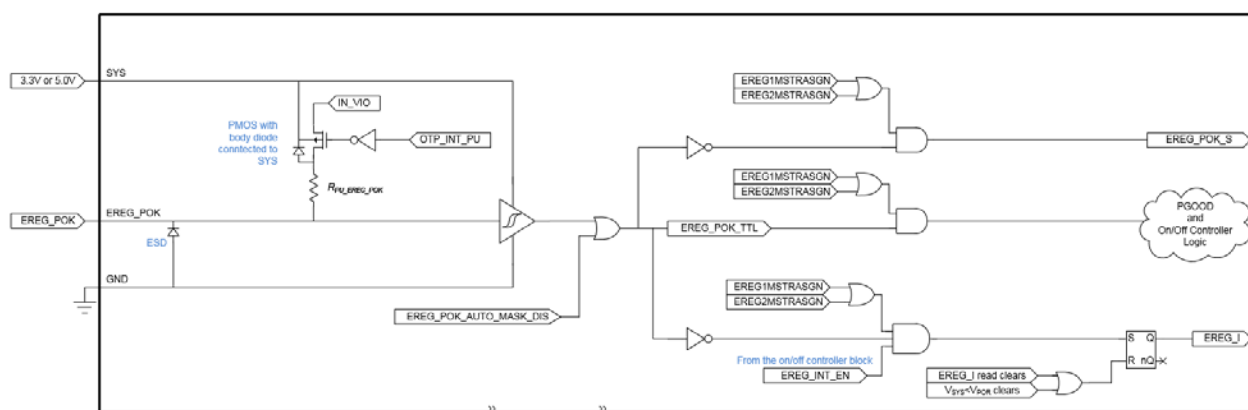

Figure 2. External regulator logic: How the external regulator's POK signal is handled logically.
- The functional logic for EREG\_POK is shown in the figure below (Figure 2). See the Register Descriptions section for additional details on the bit descriptions.